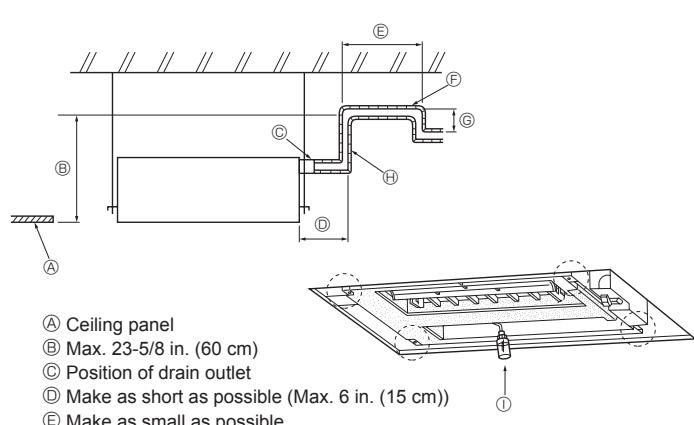

Fig. 4-5
4. Stop the test run. (Don't forget to turn off the power.) (Fig. 4-5)